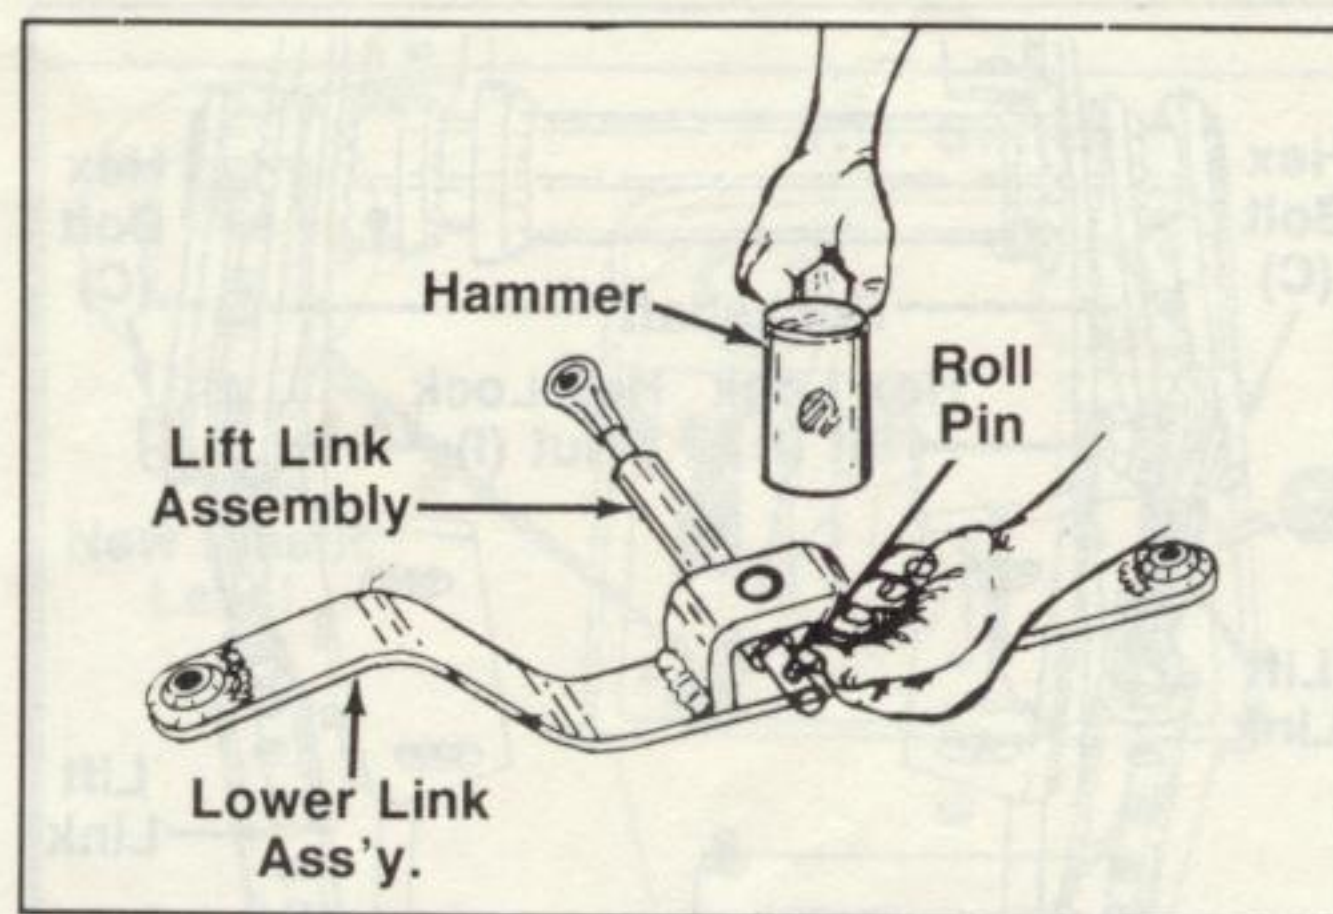

FIGURE 33.
42. Install the lift link assemblies into the lower link assemblies and secure with  $\frac{1}{4}$ " x  $1\frac{1}{2}$ " roll pins (Y). See figure 33.